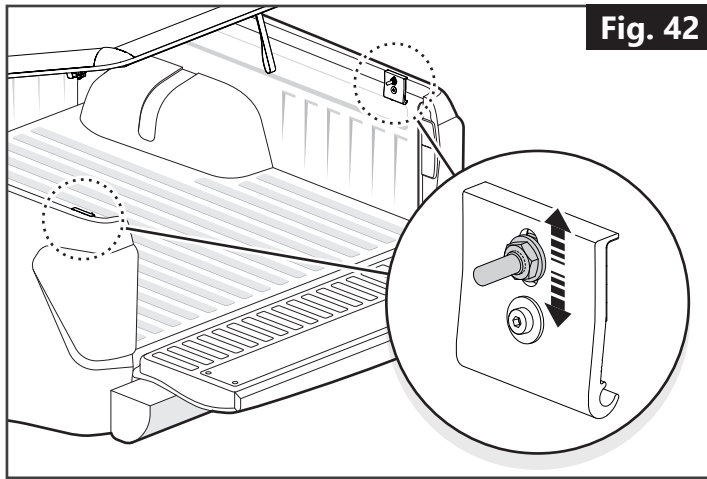

Fig. 42
- 2) Re-position the locking pin. (**Fig. 42**)